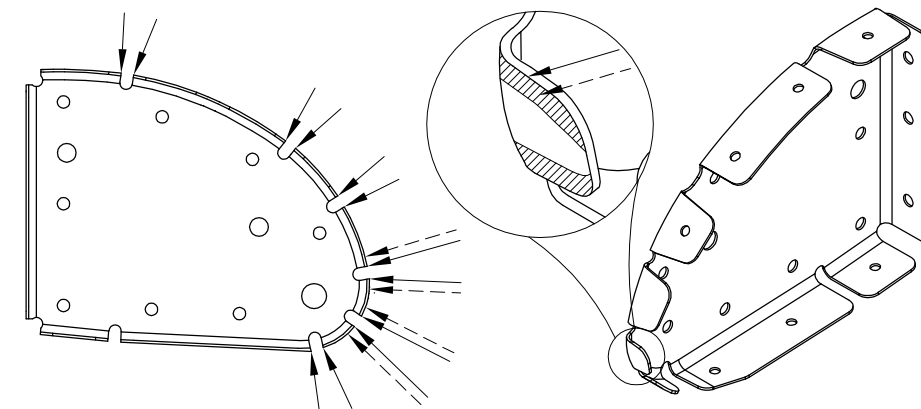

FIGURE 4: BUFF CORNERS
Step 7: Buff the edges of the FL-1004-L & -R Nose Rib flanges on an abrasive wheel in order to minimize the tendency for them to appear faceted instead of curved. See Figure 4.